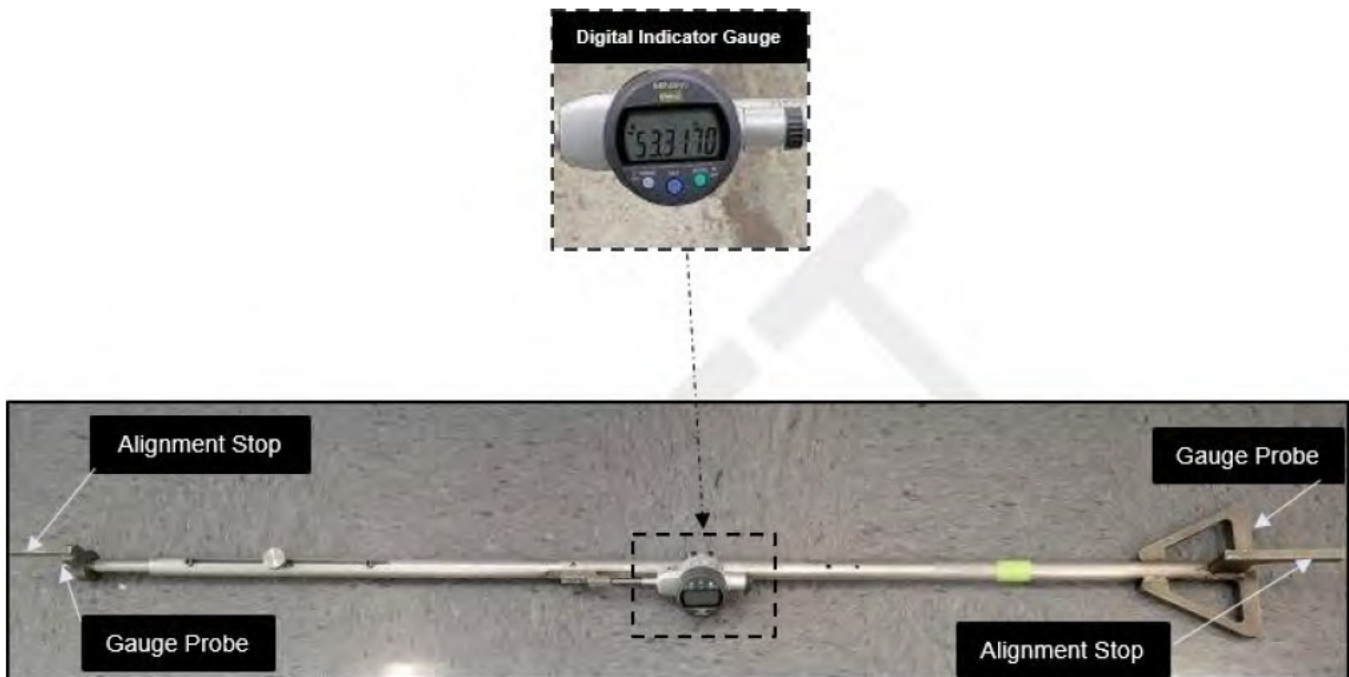
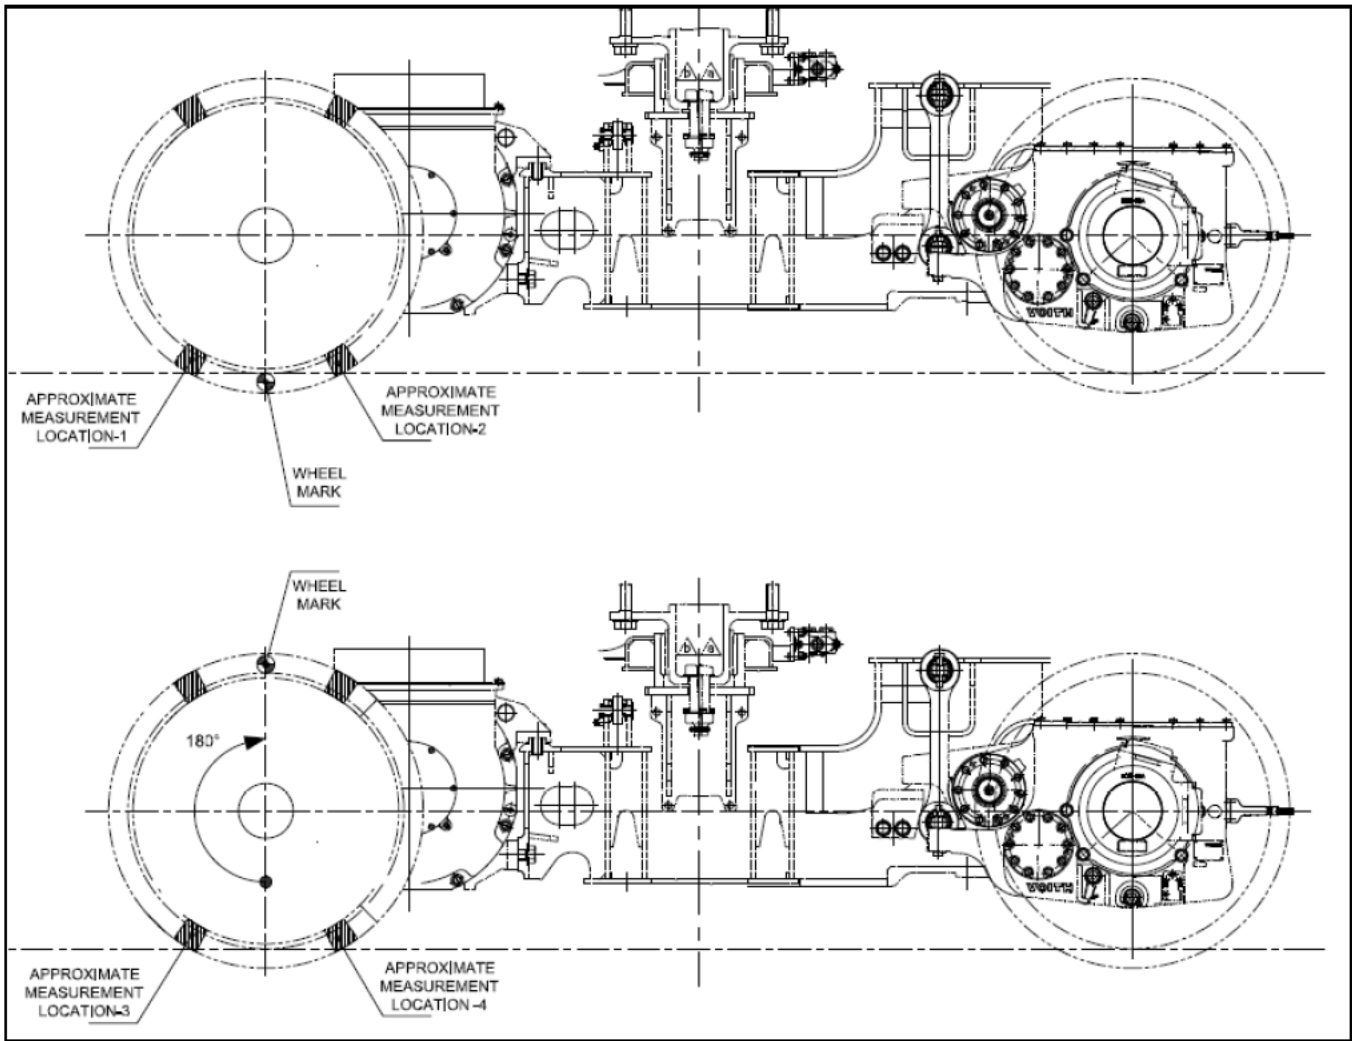

Figure 2. Back-to-Back Digital Indicator Measuring Gauge
Figure 4. Back-to-Back measurement locations
- 9.4.7 Using a validated digital indicator gauge (See Figure 2), measure the back-to-back dimensions at locations 1 and 2, adjacent to the of the pedestal tie bar as shown in Figure 4. Insert the gauge between the wheels such that the gauge probes contact both inner faces of the wheel. Ensure the gauge is perpendicular to the wheel such that the triangular probe is flush with the wheel surface and the gauge alignment stops are in contact with the wheel flange (See Figure 3). Read the measurement from the gauge and record only 3 decimal places as measurement 1 and 2 in Attachment B. The digital indicator gauge displays 4 decimal places. Ignore the 4th decimal digit and record only up to 3 decimal places. Do not round the measurement up or down.
- 9.4.8 Mark all the wheels as shown in Figure 4 and move the married pair so that the wheels turn approximately 180° to access measurement locations 3 and 4 in Figure 4.